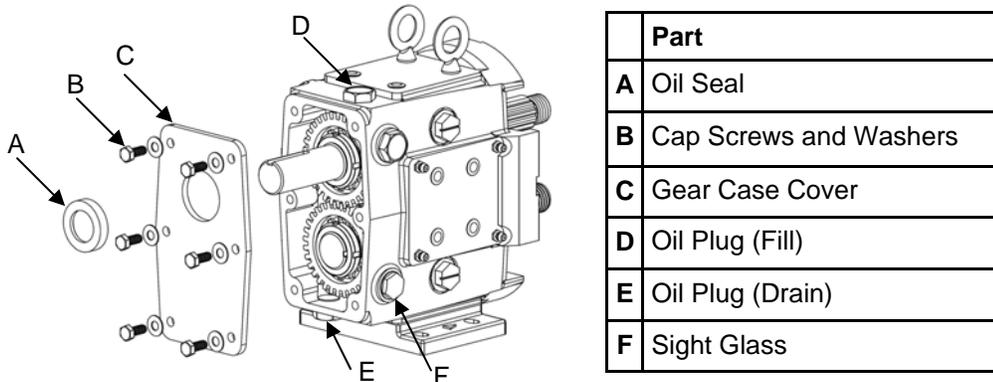

Figure 42: Gear Case Disassembly (Gear Case Cover)
1) Remove the pump head as described on page 16 and 17 (Pump Disassembly). Remove the bottom oil plug and drain the oil from the gear case (remove oil fill plug for faster drain). Remove the six hex head cap screws and washers from the gear case cover and slide the cover off the drive shaft (Figure 42). If the cover is stuck, use a soft mallet to tap around the edges until it breaks free. Using a straight edge remove the liquid gasket used to seal the cover to the gear case. Remove and discard the oil seal from the cover using an arbor press.